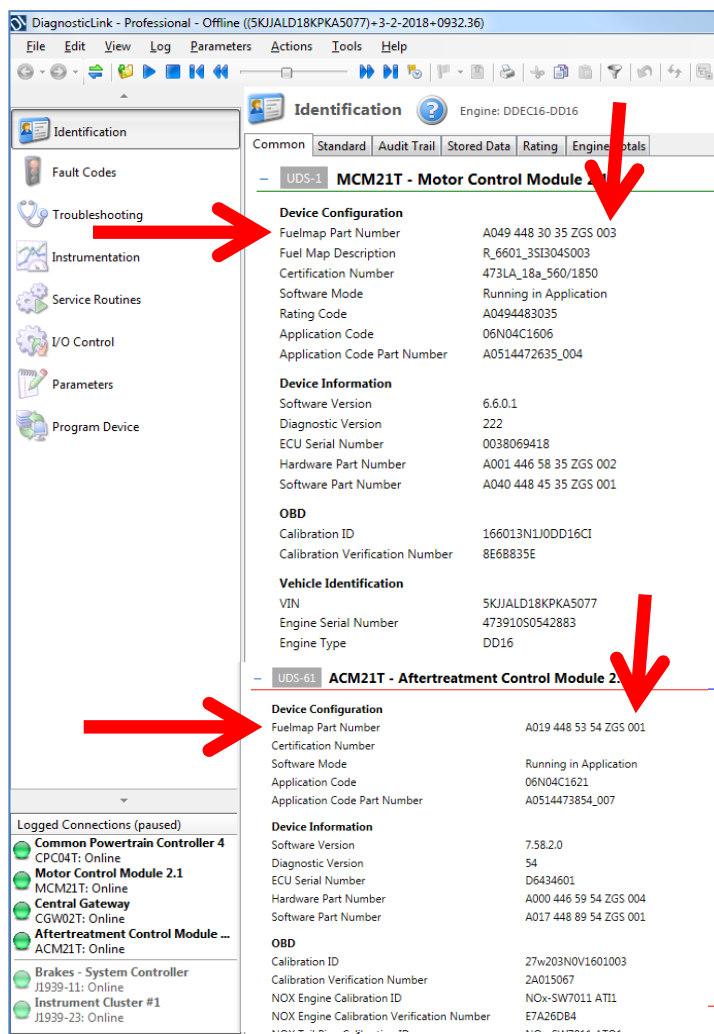

Figure 2 – DiagnosticLink® Identification Screen
7. Is the fuel map part number ZGS level for the MCM and ACM less than, equal to, or higher than the fuel map part number ZGS levels listed in step 5? The MCM and ACM fuel map part number ZGS levels must meet the **MINIMUM** requirements. For example in Figure 2, the MCM and ACM software levels meet the minimum required levels of 6.6.0.1 and 7.58.2.0, but the MCM fuel map part number ZGS level of 003 is less than the minimum level of 004, and ACM fuel map part number ZGS level of 001 is less than the minimum level of 002, and thus would require programming.